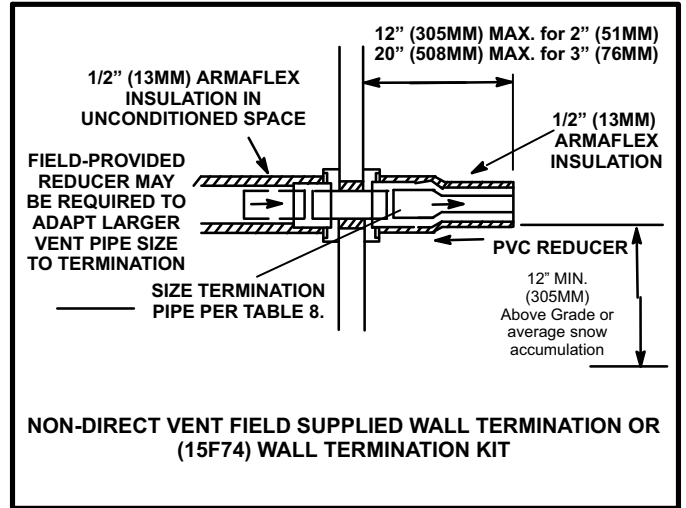

FIGURE 48
- 2 - On field supplied terminations for side wall exit, exhaust piping may extend a maximum of 12 inches (305MM) for 2" (51MM) PVC and 20 inches (508MM) for 3" (76MM) PVC beyond the outside wall. See figure 48.